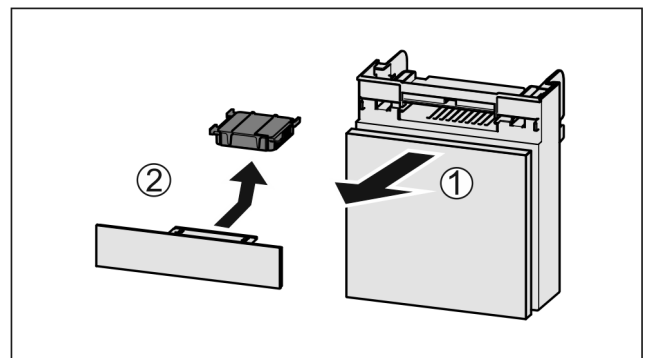

Fig. 70
- Pull out the compartment Fig. 70 (1).
- Remove the carbon filter Fig. 70 (2).